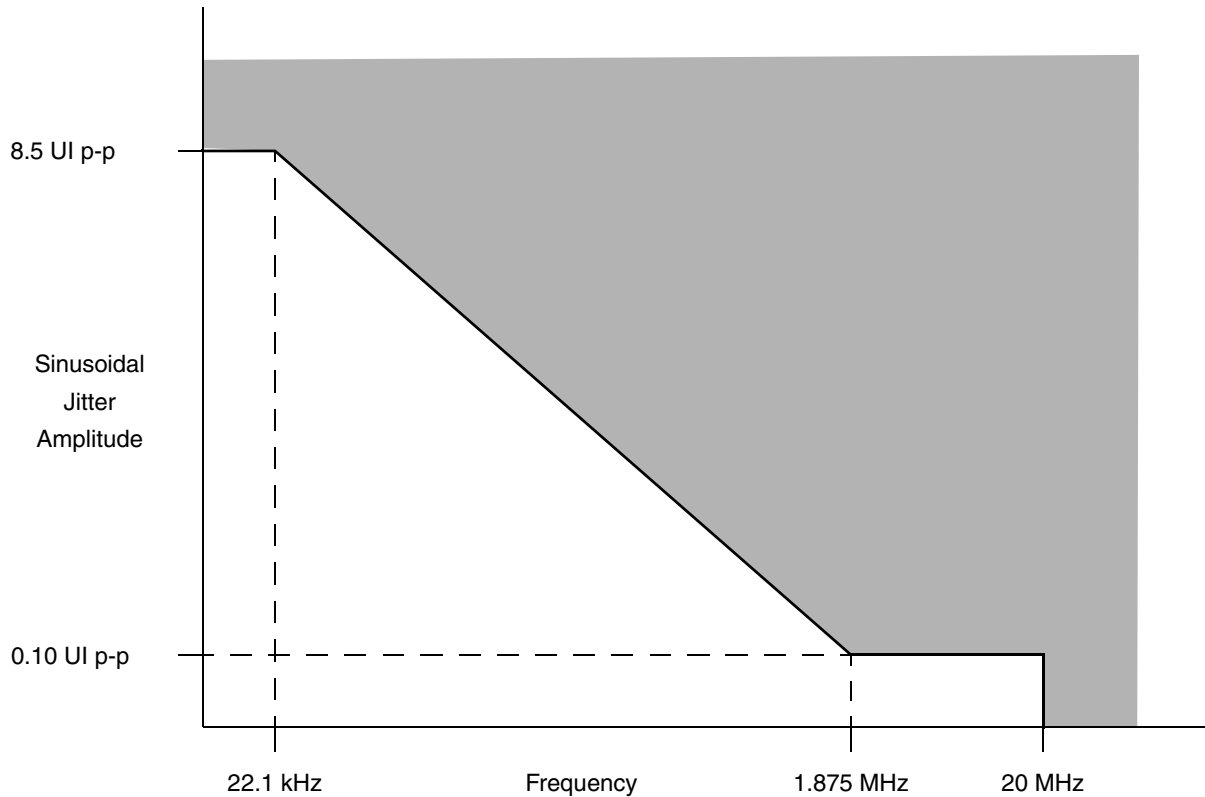

Figure 42. Single-Frequency Sinusoidal Jitter Limits
2. Total jitter is composed of three components: deterministic jitter, random jitter, and single frequency sinusoidal jitter. The sinusoidal jitter may have any amplitude and frequency in the unshaded region of Figure 42. The sinusoidal jitter component is included to ensure margin for low-frequency jitter, wander, noise, crosstalk, and other variable system effects.
2. Total jitter is composed of three components: deterministic jitter, random jitter, and single frequency sinusoidal jitter. The sinusoidal jitter may have any amplitude and frequency in the unshaded region of Figure 42. The sinusoidal jitter component is included to ensure margin for low frequency jitter, wander, noise, crosstalk, and other variable system effects.